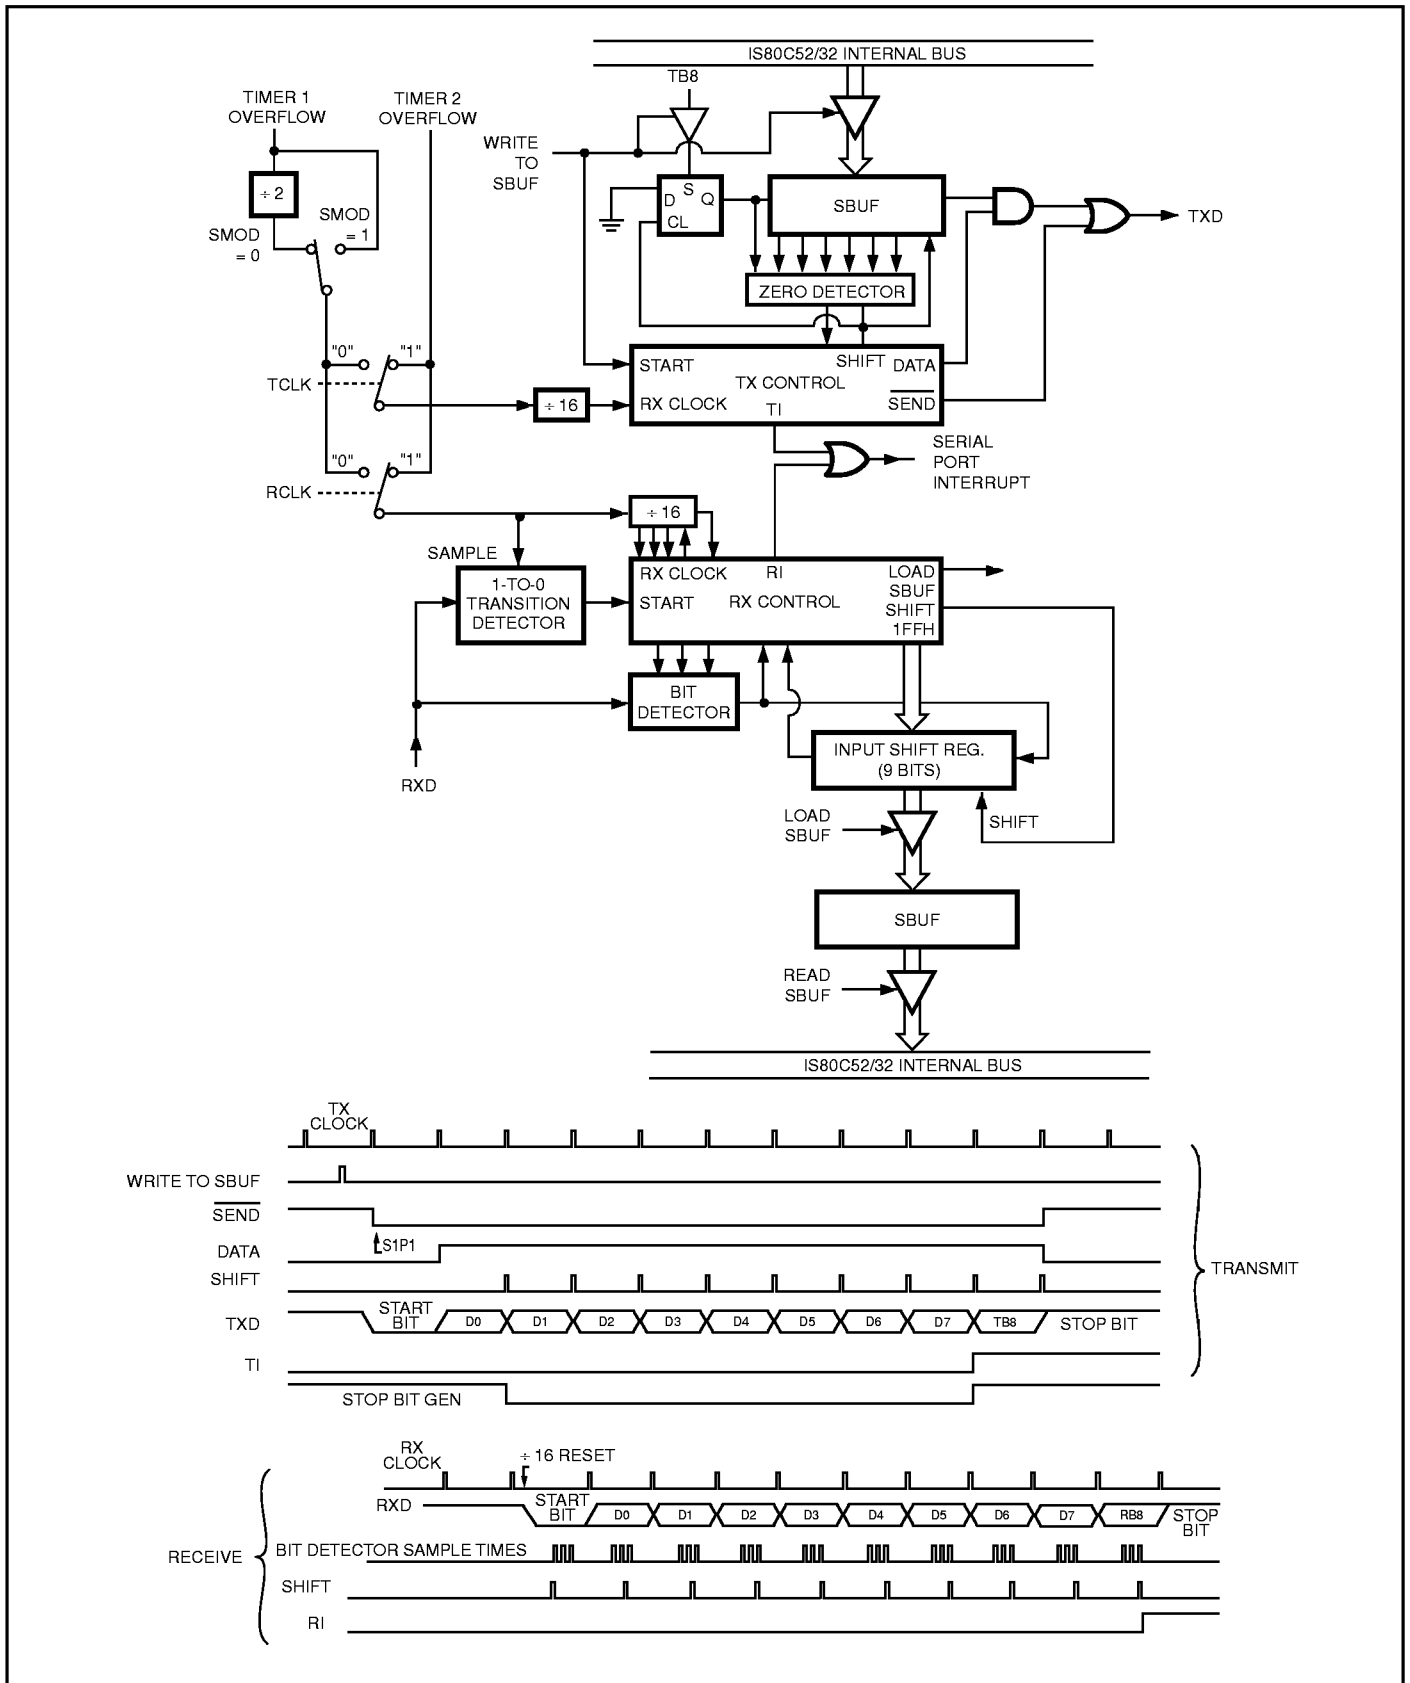

Figure 17. Serial Port Mode 3
Eleven bits are transmitted (through TXD) or received (through RXD): a start bit (0), eight data bits (LSB first), a programmable ninth data bit, and a stop bit (1). In fact, Mode 3 is the same as Mode 2 in all respects except the baud rate, which is variable in Mode 3 (see Figure 17).
The IS80C52/32 provides 6 interrupt sources: two external interrupts, three timer interrupts, and a serial port interrupt. These are shown in Figure 17.